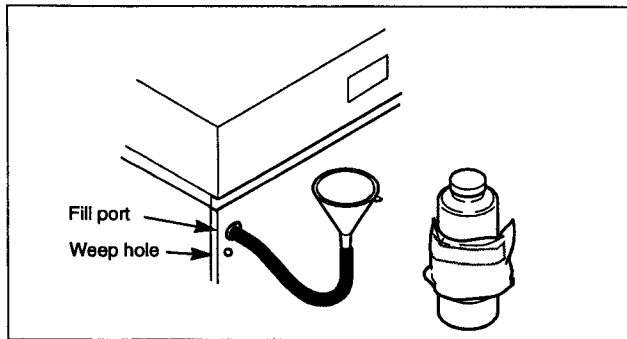

Figure 5. Water Jacket Fill
5. Slide the tubing to the fill fitting as shown in Figure 5.